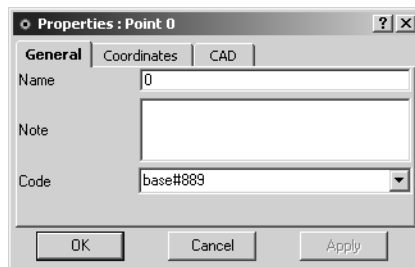

Figure 4-47. Point Properties – General Tab
2. On the **Properties** dialog box, click the *General* tab (Figure 4-47).
2. On the *Properties* dialog box, click the *CAD* tab (Figure 4-47).